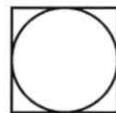

Figure 38. Instrument Tag
9. Determine the type of device indicated by the tag in figure 38.